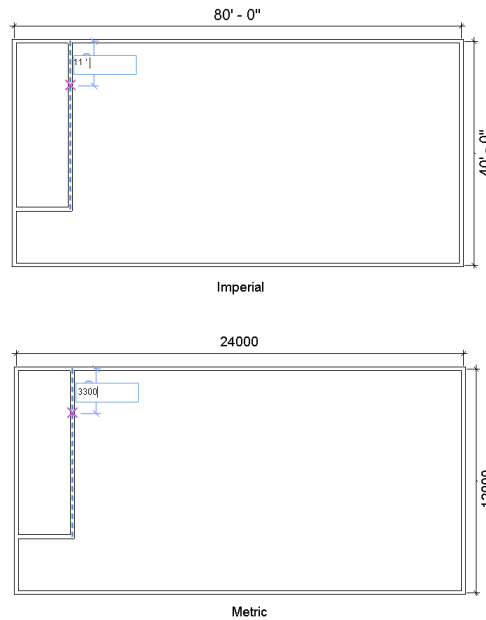

Figure 3-67 Specifying the starting point of second interior wall segment
- To sketch the second interior wall, move the cursor to the upper endpoint of the interior wall you just created and then move the cursor vertically downward. Enter 11'0" for Imperial or 3300 mm for Metric when the temporary dimension and the intersection object snap appears as shown in Figure 3-67.